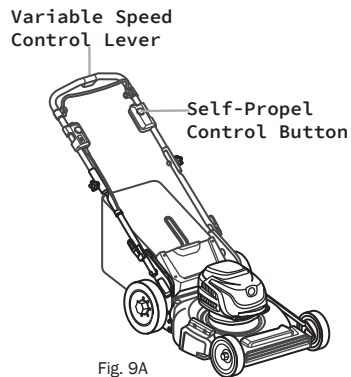

Fig. 9A
1. When your mower is running, press the self-propel control button. This will make the lawnmower move forward automatically when cutting. (Fig.9A)